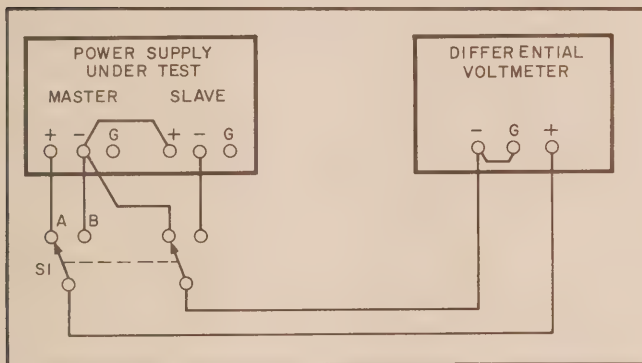

Figure 5-9. Tracking Error Test Setup
5-42 Tracking Error. The tracking error is defined as the difference in percent between the output voltage of the master and slave supplies when the instrument is operated in the tracking mode. The error is measured once for the complete instrument, as opposed to the previous tests in which the test procedure was repeated for both supplies contained in the instrument. The test setup to be used is shown in Figure 5-9. Only the front output terminals should be used for this test; the rear terminals cannot be used when the instrument is operated in the tracking mode. In addition, note that the minus output terminal of the master (left) supply must be used as the terminal common to both
a. Connect test setup shown in Figure 5-9.
b. Set front panel mode switch to TRACKING, and connect jumper between minus output terminal of left supply and positive output terminal of right supply as shown on front panel and in Figure 5-9.
- a. Connect test setup shown in Figure 5-9,